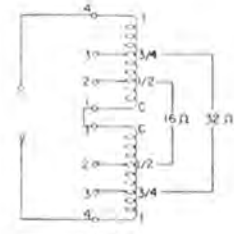

FIGURE 3
3. Cascade (Fig. 3) for matching a 70-volt, 80-watt line to 8, 16, or 32 ohms.